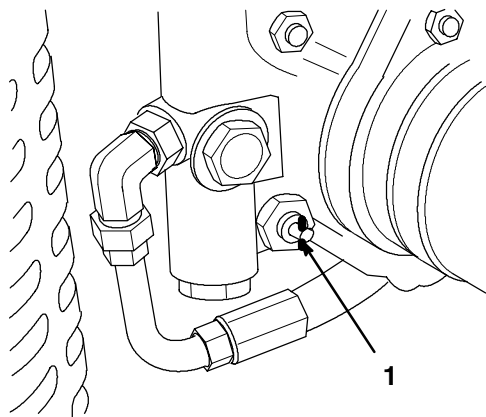

Figure 29
1. Locate the bypass valve on the pump and rotate it 90° (Fig. 29).